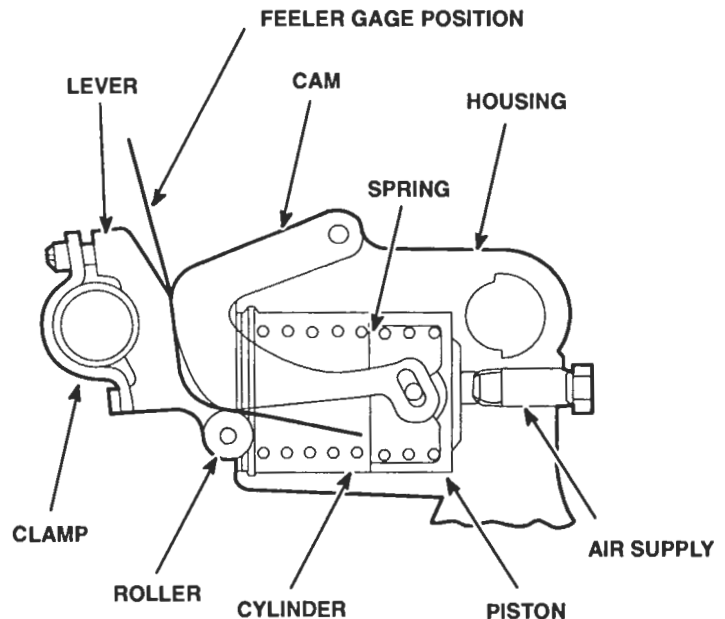

Figure 10. Fuel Modulator Assembly
3. Insert a .005 inch feeler gage between the modulator roller and cam (Figure 10.) The rack gage must fall over. The rack gage should stand at a 45 degree angle by itself when the .005 inch feeler gage is removed.